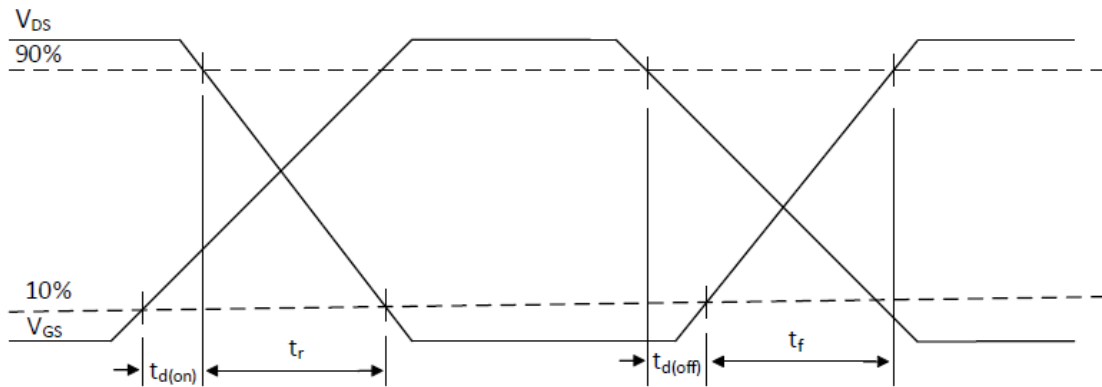

Figure 17: switching time waveforms
(6) L_p = parasitic inductance
(7) See Figure 17 for switching loss test circuit